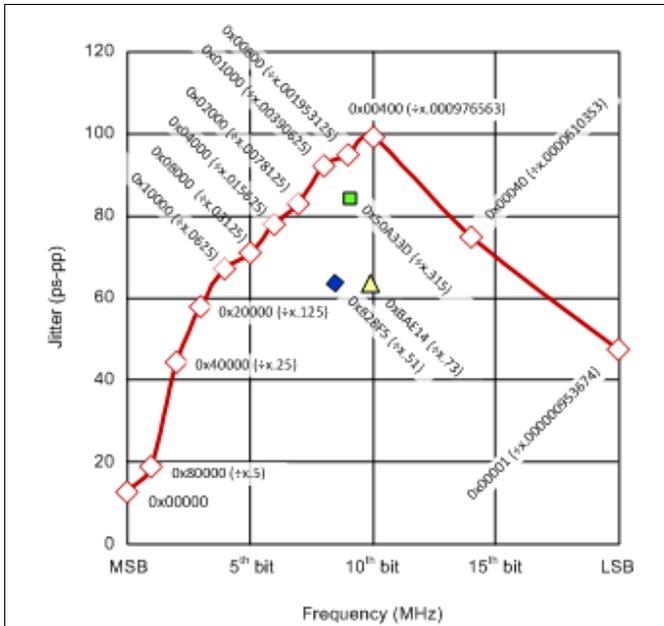

Figure 30. Fractional Divider Bit Selection Impact on Jitter ( $f_{FRAC} = 300$  MHz)
| 0.27 ps-rms (Integer division)0.7ps-rms (fractional div) | 0.3 ps-rms (int div) (1) | 0.625 ps-rms (int div) | 20 ps-pp (2)                       | 50-220 ps-pp,see <a href="#">Figure 30</a>     |
| 1.6 ps-rms (Integer division)2.3 ps-rms (fractional div) 10k-20MHz | 2.1 ps-rms (int div) | 2.14 ps-rms (int div) | 40 ps-pp                                      | 70-240 ps-pp,see <a href="#">Figure 30</a>     |
The fractional output divider jitter performance is a function of the fraction output divider input frequency as well as actual fractional divide setting itself. To minimize the fractional output jitter, it is recommended to use the least number of fractional bits and the highest input frequency possible into the divider. As observable in Figure 30, the largest jitter contribution occurs when only one fractional divider bit is selected, and especially when the bits in the middle range of the fractional divider are selected.